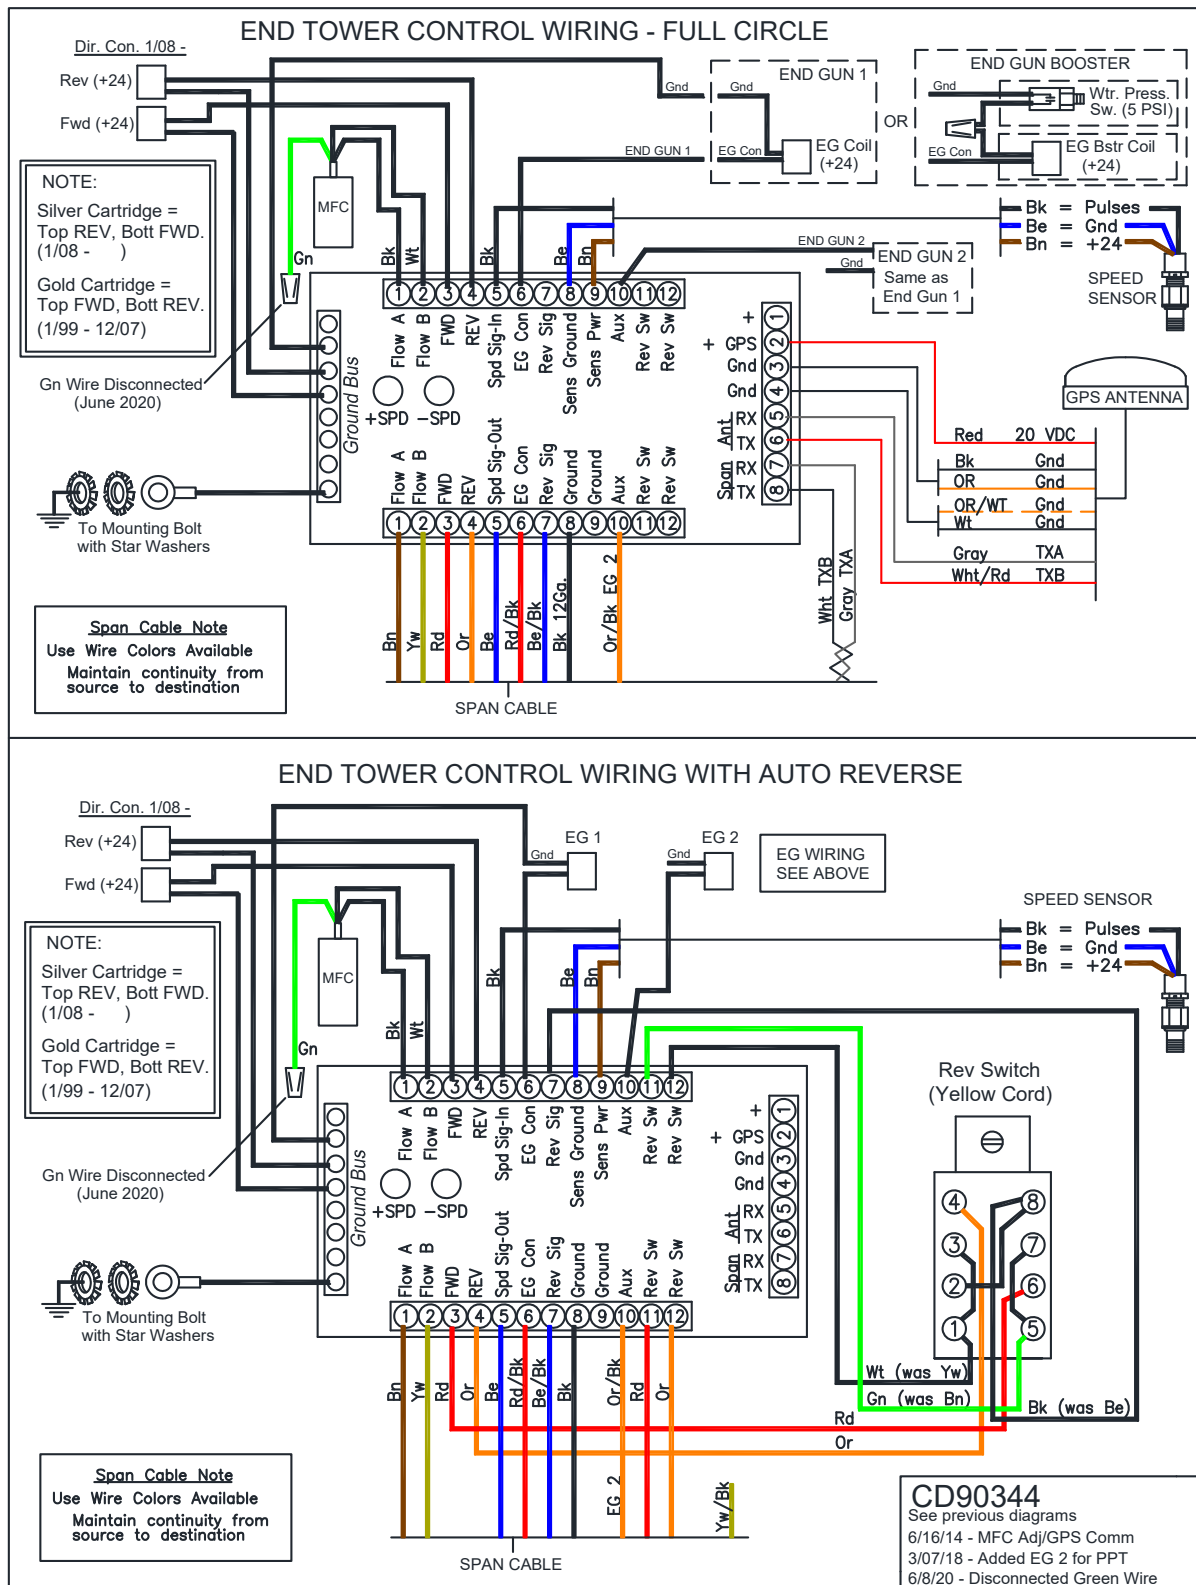

Figure 211. End Tower Control Wiring.
11.7 End Tower Control Wiring (Figure 211)